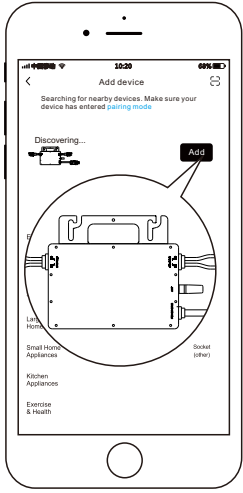

Figure 2
- Step 2. When the device appears on the search page, click "Add", as shown in Figure 2